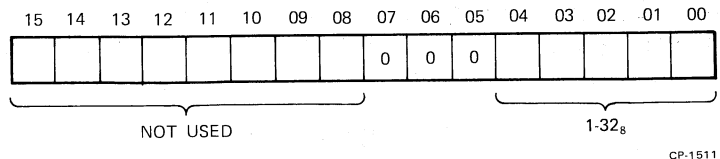

Figure 4-19 RXSA Format (RX11/RXV11)
4.2.2.4 RXSA - RX Sector Address (Figure 4-19) - This register is loaded to indicate on which of the 26 (32₈) sectors a given function is to operate. It can be addressed only under the protocol of the function in progress (Paragraph 4.2.3). Bits 8-15 are unused and are ignored by the control.